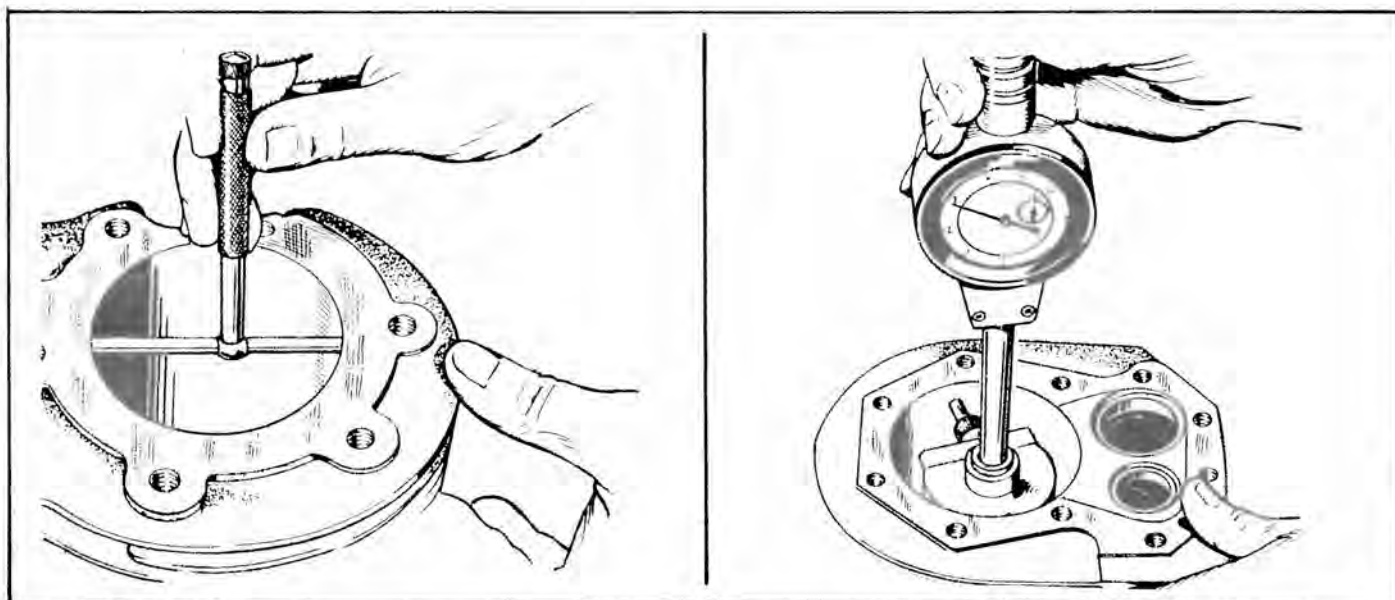

FIGURE 35. METHODS OF MEASURING THE DIAMETER OF A CYLINDER
- 3. Check the cylinder bore for taper, out of round and wear, with a cylinder bore gauge, telescope gauge or inside micrometer (Figure 35). These measurements should be taken at four places - the top and bottom of piston ring travel.